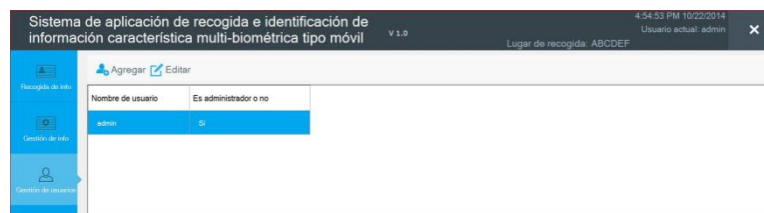

Figure 7.1.1
1. In the system main interface, is to click Gestión de usuarios, to enter the user management interface (as shown in figure 7.1.1).